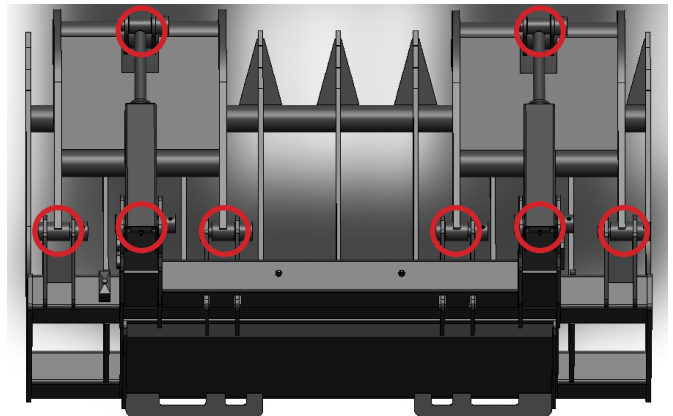

Figure 1
Grease all pivot points every eight (8) hours of use to prevent excess wear on the clamp pins and cylinder pins. The Mini Single Clamp has four to five (4 –5) grease points. The Mini Double Clamp, Extreme Duty, Extreme Duty High Capacity, and Severe Duty Root Grapples have eight (8) grease points. These points are circled in Figure 1.